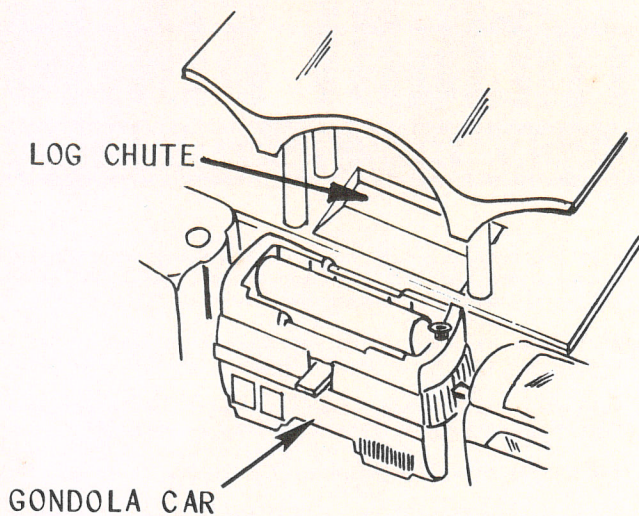

FIGURE 4
1. Move train until gondola car is opposite log chute in Freight Station as shown in Fig. 4.